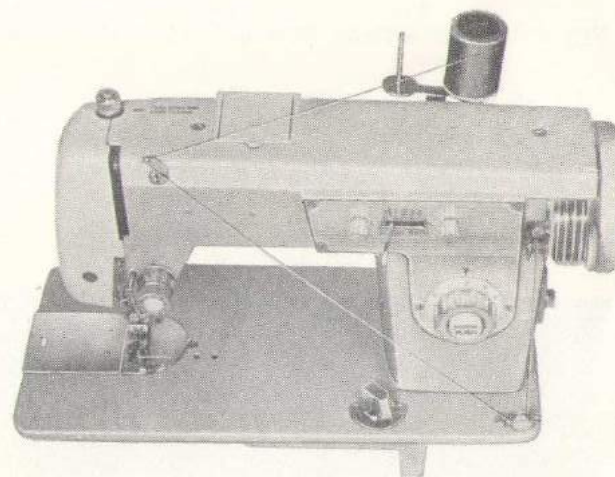

Fig. 5
- 2) Place a spool of thread on the spool pin (Fig. 5). Draw the thread from the spool to thread guide, then downward across the machine from left to right.